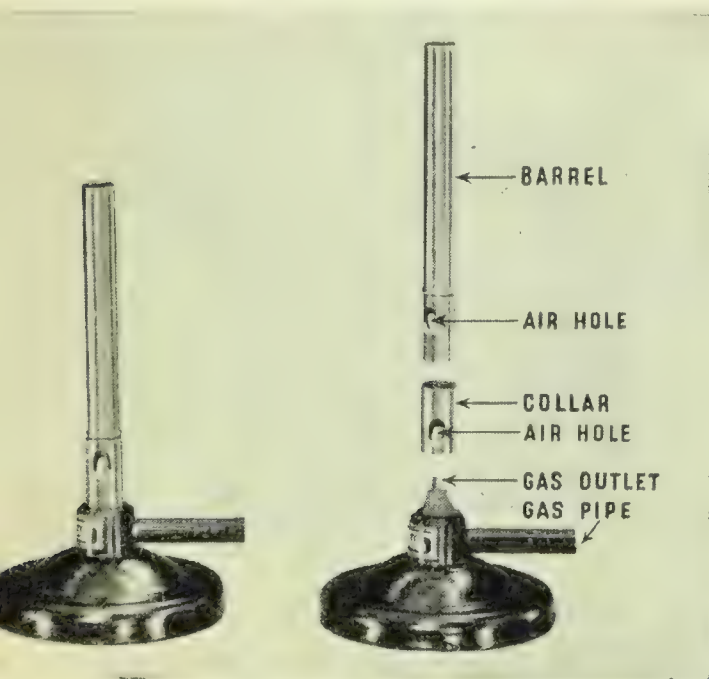

FIG. 68. Experiment 24
*Experiment 24.* HOW DOES A BUNSEN BURNER WORK? (a) Take a Bunsen burner apart by unscrewing the barrel (Figure 68). Find a little hole through which the gas comes. Connect the bottom part of the burner to a gas-jet with a rubber tube. Turn on the gas just a little and light the stream of gas that comes out through the small opening. What color is the flame? Turn on the full pressure of the gas? What happens?